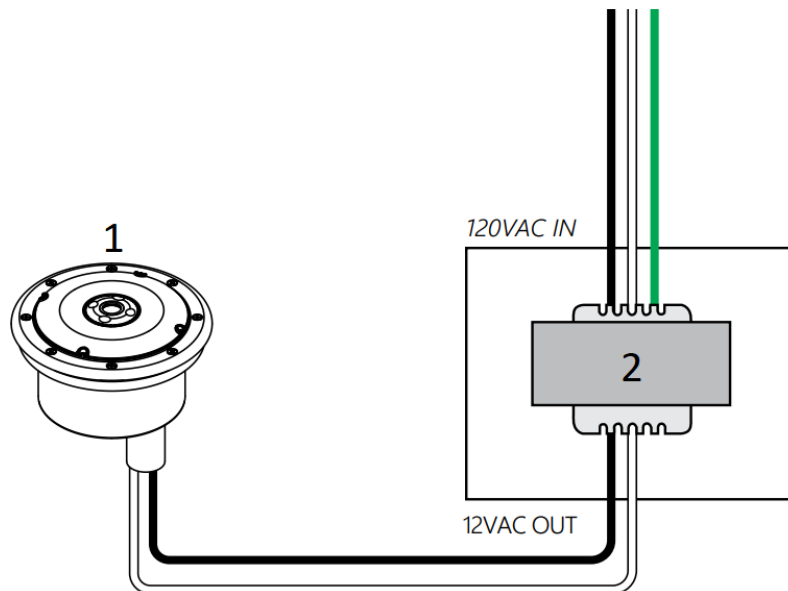

FIGURE 7: ELECTRIC SCHEMATIC EXAMPLE
C.2.1 With all of the different components and applications in the pool and spa industry, proper installation recommendations cannot be taken for granted. This procedure gives specific recommendations to ensure that electrical wiring of your Brilliant Wonders Lighted Bubbler Unit is properly installed. The installer should also consult local inspectors to insure that the unit is installed according to all local building codes and regulations. Refer to the schematic below for installation of the electrical system (Figure 7).